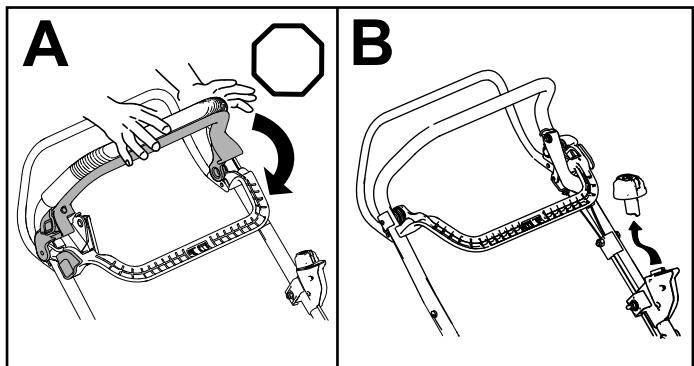

Figure 18
1. Release the blade-control bar (A of Figure 18).
2. Remove the electric-start button from the electric starter (B of Figure 18).